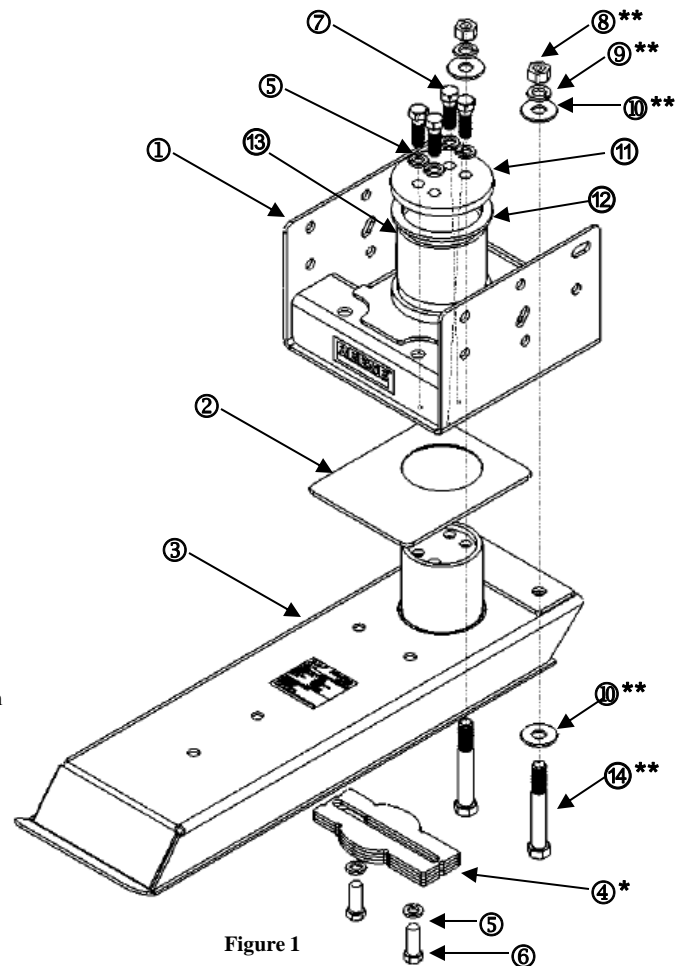

Figure 1
2. Check all boxes for all components listed in figure 1. Locate the part information and record it on page 12.